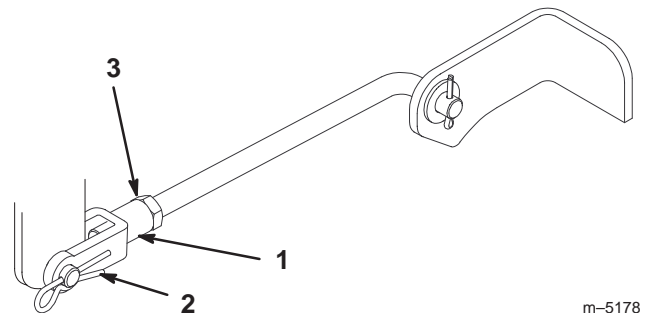

Figure 38
7. To adjust the front-to-rear blade slope, remove the hairpin cotter from the front trunion yokes and loosen the jam nuts (Fig. 38).
8. Rotate the yokes on the rods to change the adjustment (Fig. 38). To raise the front of the mower, tighten the yokes (shorten the rods). To lower the front of the mower, loosen the yokes (lengthen the rods).